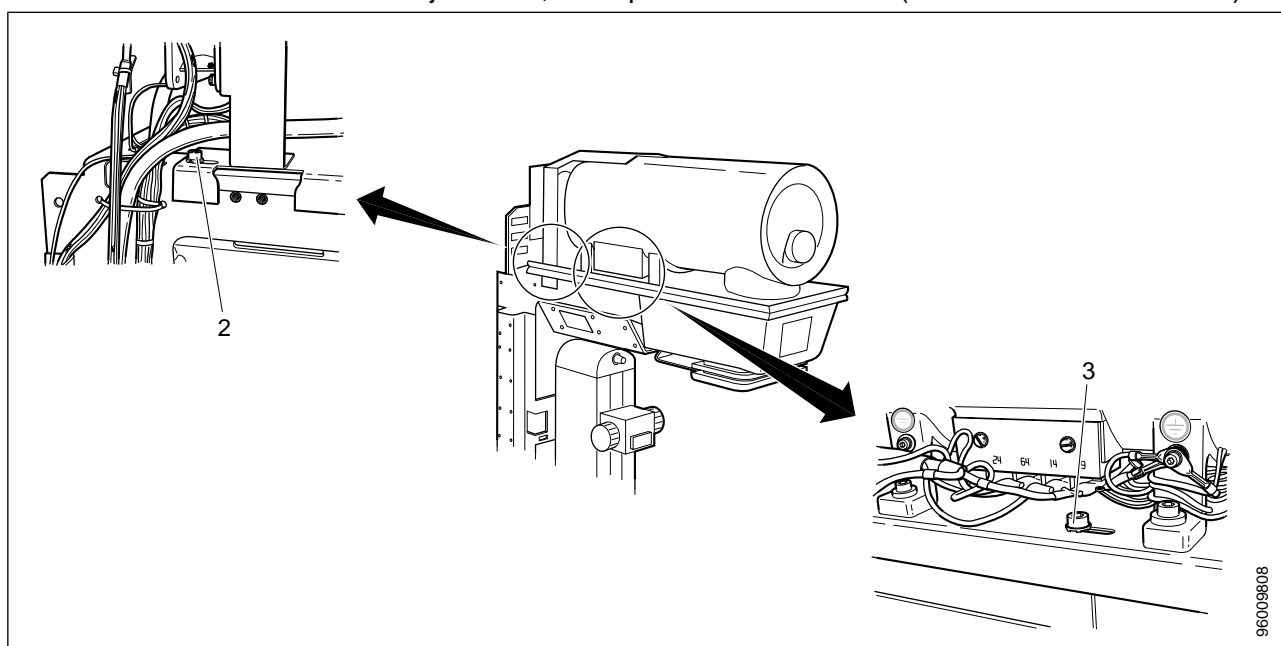

Fig. 4 Adjustment of radiation field
1. Loosen the screws (2, 3/Fig. 4) that hold the collimator.